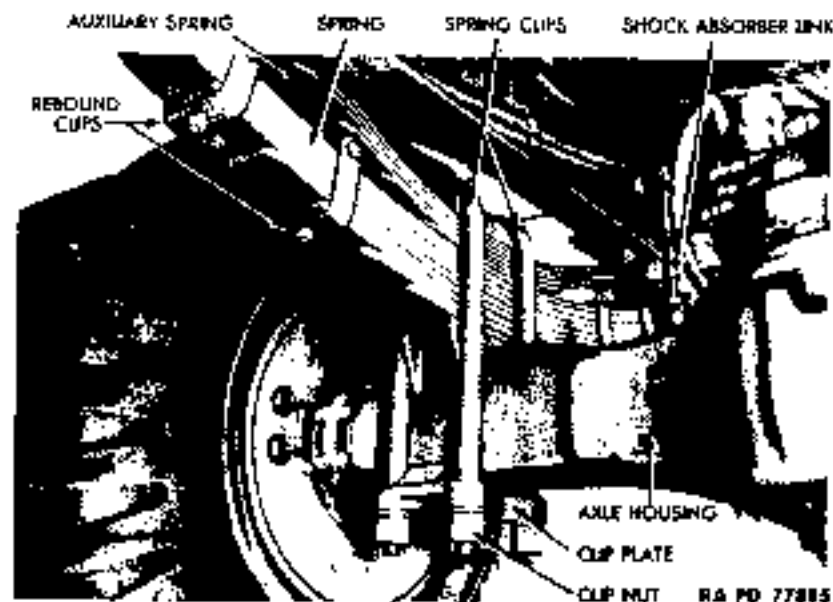

Figure 84 - Rear Spring Installed
a. **Description (fig. 84).** The rear springs are attached to frame side rails by a bracket at the front and a shackle at the rear. The springs are attached to axle housing by two spring clips which clamp center of spring to spring clip plate on housing. Auxiliary springs which help to carry heavy loads are mounted above rear springs, and contact special brackets attached to frame when rear springs flatten out.
b. **Removal (fig. 84).**
c. **Installation** (fig. 84).